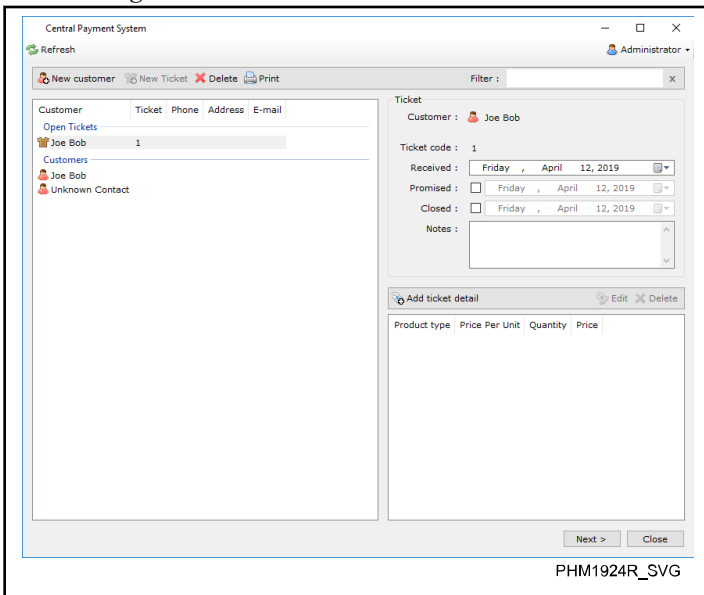

Figure 97
1. Open the desired ticket and then click the **Next >** button. Refer to *Figure 97*.